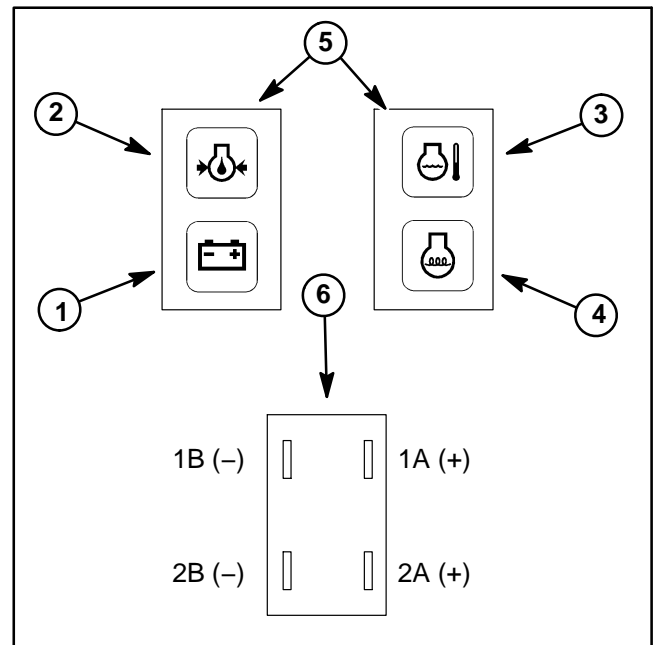

Figure 28
2. Apply 12 VDC to terminals 1A and 2A (Fig. 28) and ground terminals 1B and 2B (Fig. 28).